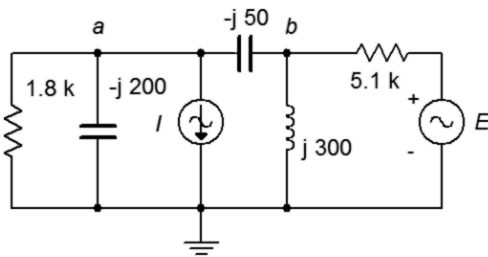

Figure 5.14
27. For the circuit of Figure 5.14, use Superposition to determine the inductor current. $I = 100E-3\angle 0^\circ$ and $E = 26\angle 0^\circ$.
28. For the circuit of Figure 5.14, use Superposition to determine v_{ab} . $I = 50E-3\angle 0^\circ$ and $E = 18\angle 90^\circ$.